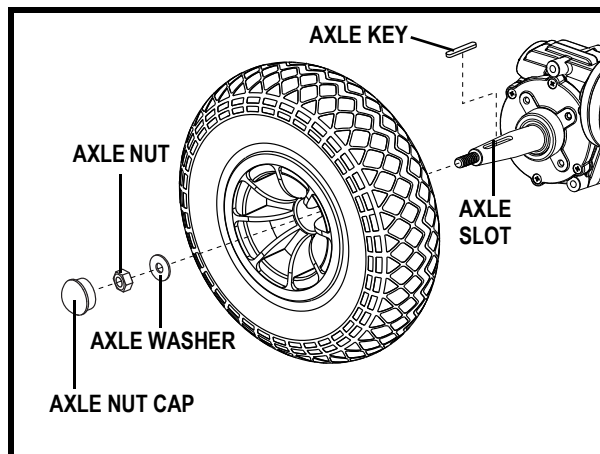
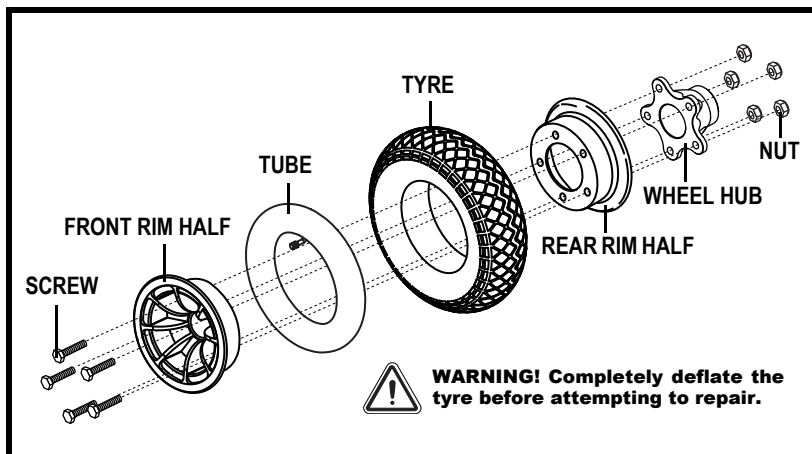

Figure 29. Sparky Drive Wheel
Figure 30. Sparky Drive Wheel Disassembled
4. Remove the axle nut cap, axle nut, and axle washer from the wheel hub. See figure 29.
6. Remove the five (5) Nylock nuts from the inside of the wheel hub.
7. Remove the screws and separate the front and rear rim. See figure 30.
9. Reinstall the screws through the two rim halves and hub. Tighten the five (5) Nylock nuts on the inside of the wheel hub.